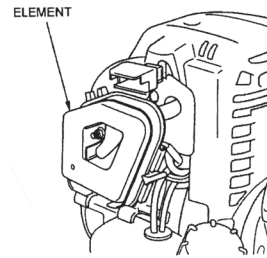

FIG 27
1. The air filter (Fig.27) is one of the most important areas to maintain. If it is not maintained, you will void the warranty. Before cleaning, make sure the unit is turned off.